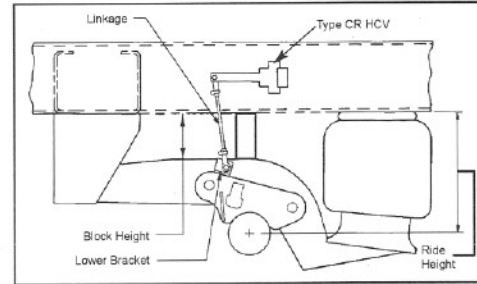

Figure 3. Block Height
7. Raise the suspension by moving the control arm of the Height Control Valve up. Either place spacer blocks between the frame and axle or jack stands between the vehicle frame and ground (Figure 3 and 4).